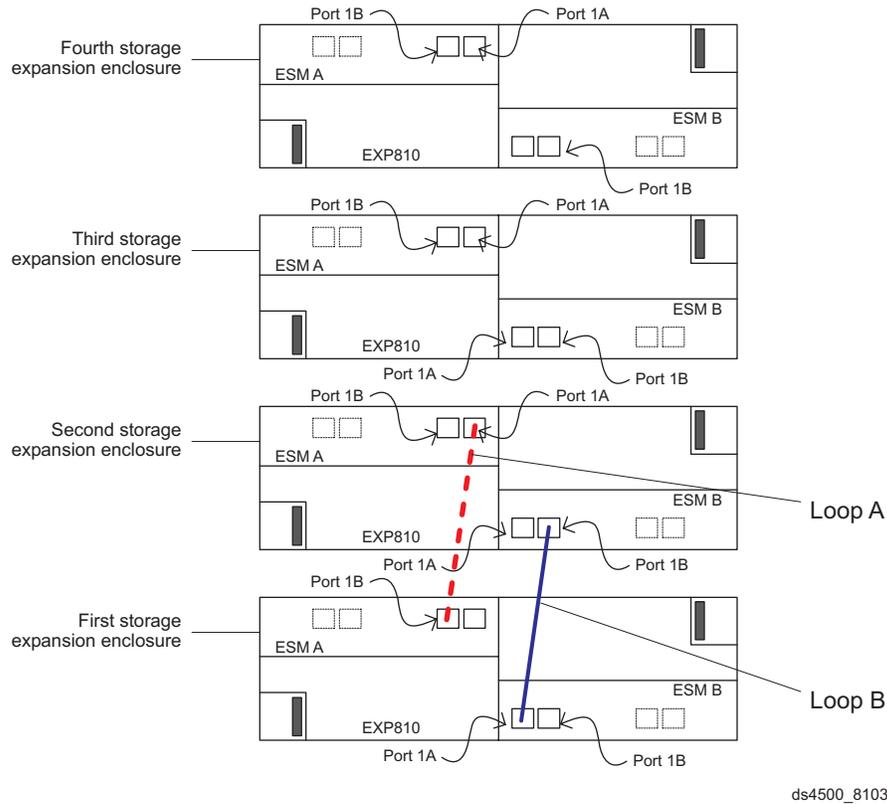

Figure 69. Connecting two EXP810 storage expansion enclosures into redundant drive loop B
2. Connect the same first two storage expansion enclosures to drive loop B, as shown in Figure 69.